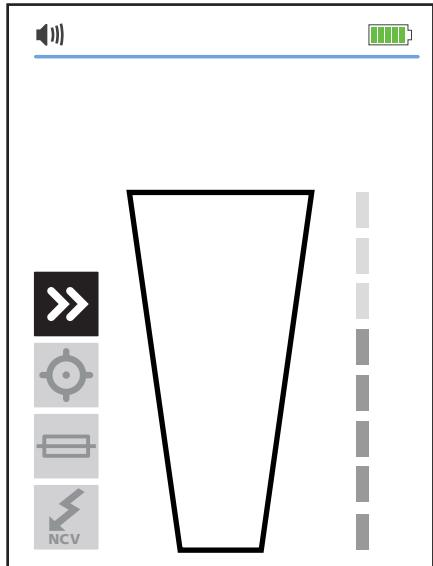
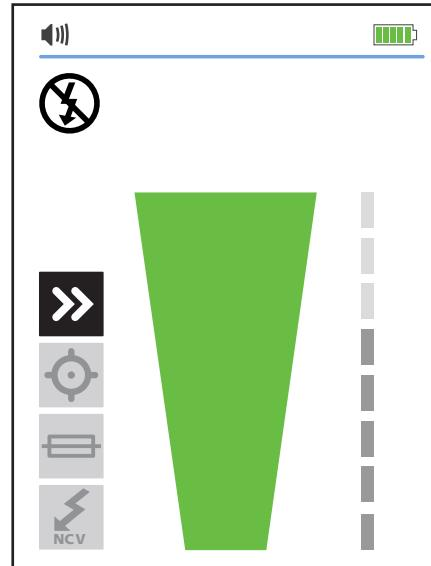

Figure 3.1c: Signal not detected
Figure 3.1d: Signal detected
3. For best results while tracing Energized wires, align groove on the Tip Sensor with wire direction as shown in Figure 3.1c and Figure 3.1d. Signal may be not detected if not properly aligned. To verify wire direction, periodically rotate the Receiver 90 degrees. Signal strength will be the highest when wire is aligned with the Tip Sensor groove. Depending on the detected signal, the Receiver automatically switches to either Energized  or De-energized  mode, and displays this information on the LCD. No manual setup is necessary.